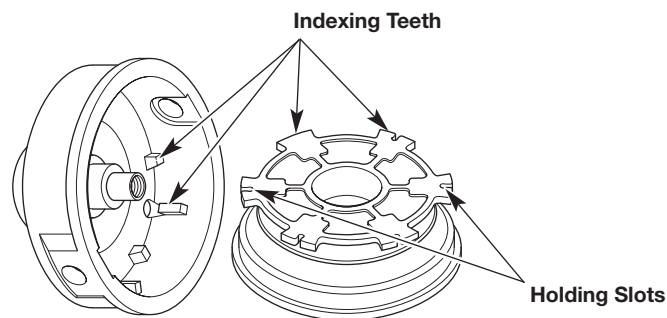

Fig. 12
6. Check the indexing teeth and holding slots for wear (Fig. 12). If necessary, remove burrs or replace the inner reel and outer spool.